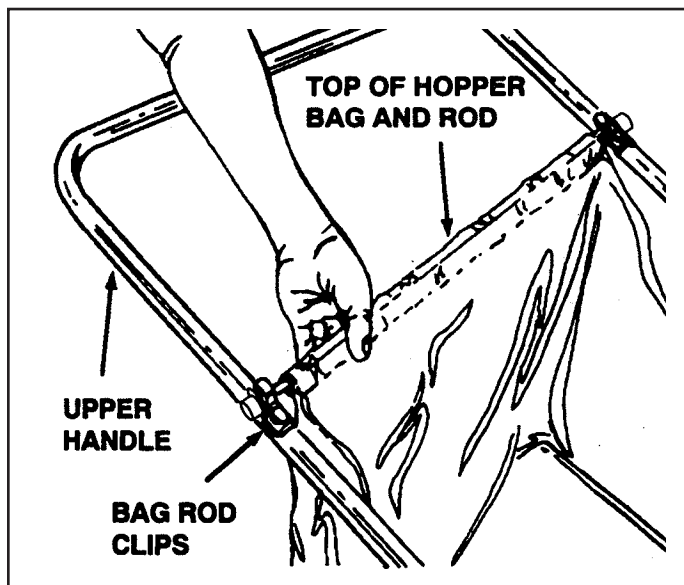

FIGURE 8
11. Place the upper hopper bag and bag rod into the bag rod clips on the hopper handle. See figure 8.